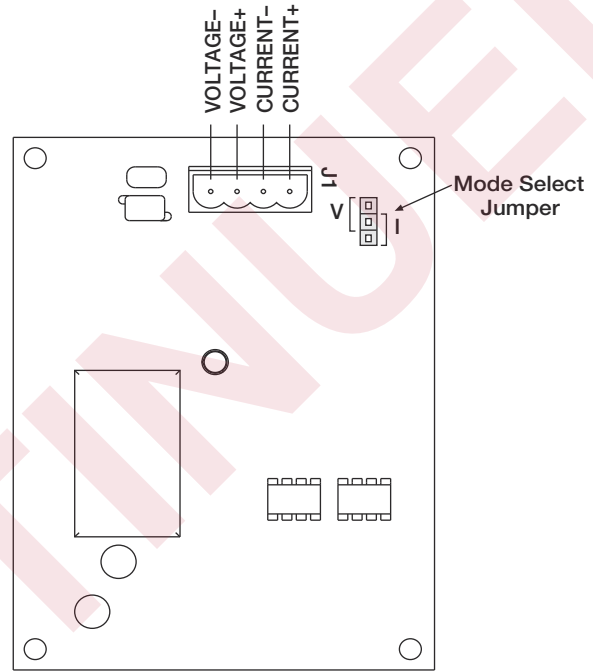

Figure 2. Analog Output Card
5. Install terminal block end of cable assembly to connector J1 of analog output option card (see Figure 2).
8. Set the mode select jumper (see Figure 2) for voltage (V) or current (I) output.